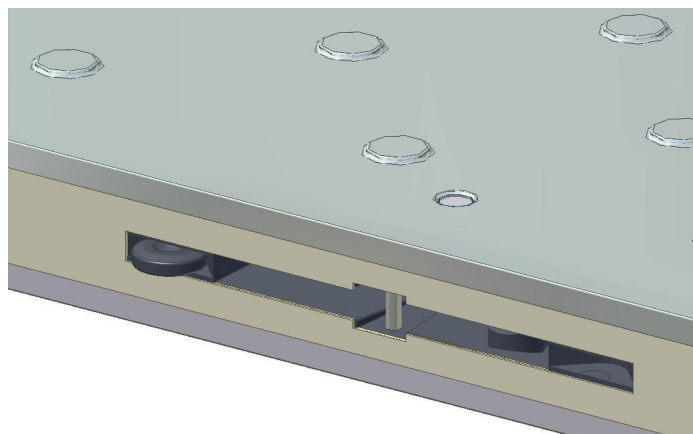

Fig. 1
- Before the panels' assembly, you must place an alignment part in the locks. The function of these parts allows a perfect alignment of locks. You must place only one part on each pair of locks (Fig. 1)